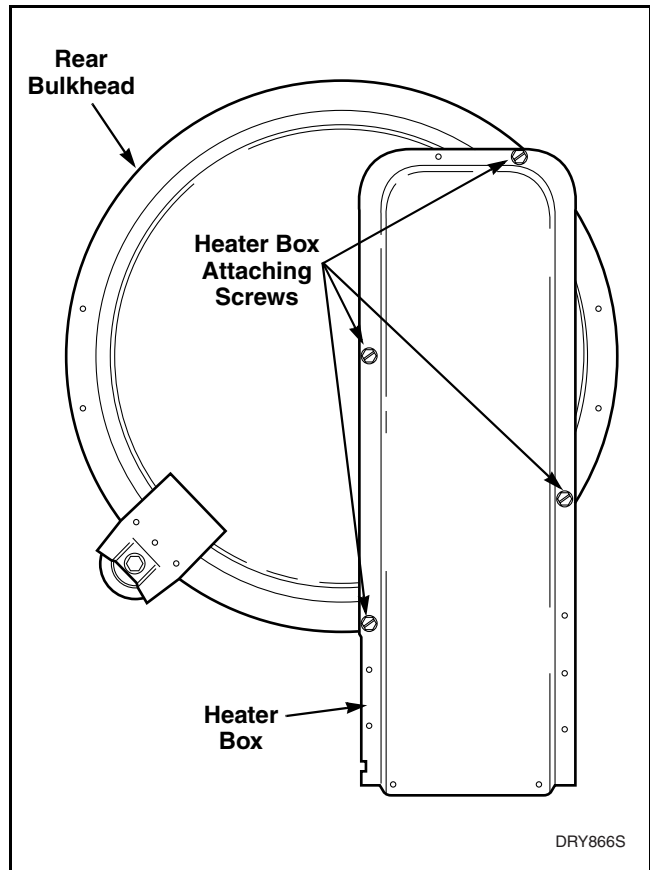

Figure 39
- f. Refer to *Figure 39* for removal.